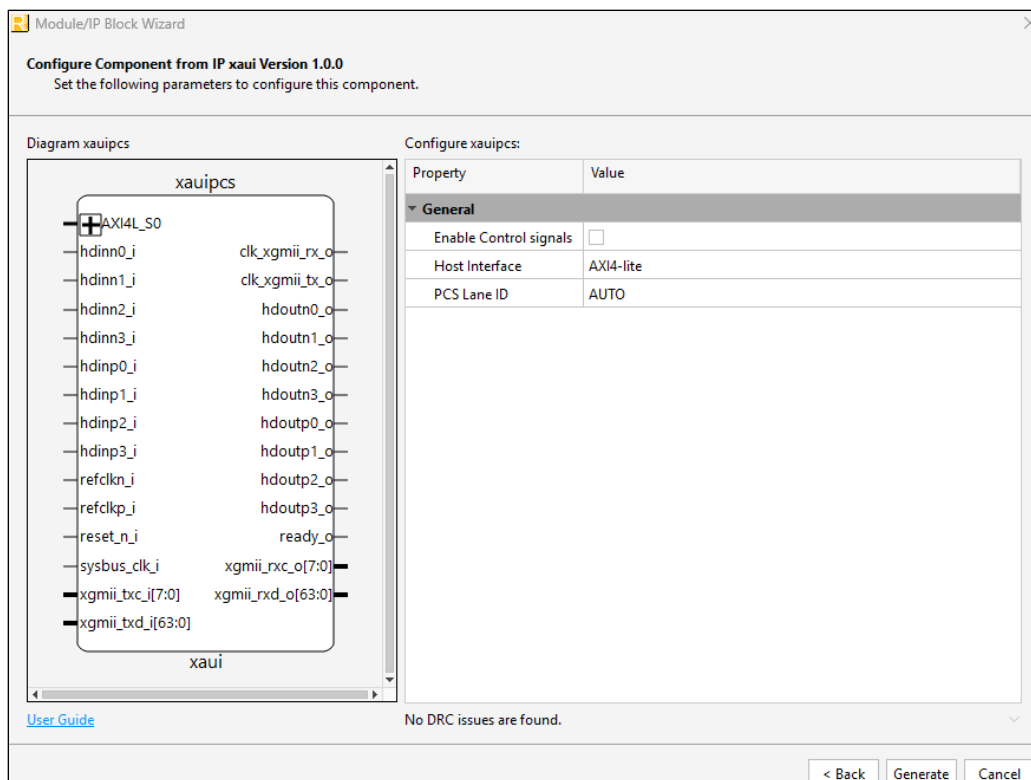

Figure 7.2. Configure User Interface of Selected XAUI IP Core
4. In the module's dialog box of the **Module/IP Block Wizard** window, customize the selected XAU1 IP core using drop-down menus and check boxes. As a sample configuration, see Figure 7.2. For configuration options, see the IP Parameter Description section.
Designing with the IP	<ul style="list-style-type: none"> Updated the section title from IP Generation and Evaluation to Designing with the IP. Updated the section title for Generation and Synthesis to Generating and Instantiating the IP. Updated Figure 7.2. Configure User Interface of Selected XAU1 IP Core. Updated the Running Functional Simulation section. Added the Timing Constraints section.